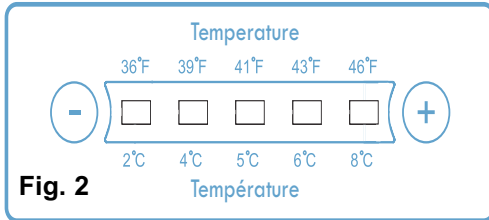

Fig. 2
- There is a digital temperature display panel in the REFRIGERATOR compartment (See Fig.2.). The digits on the upper line are in degrees Celsius, while the bottom digits are in degrees Fahrenheit.